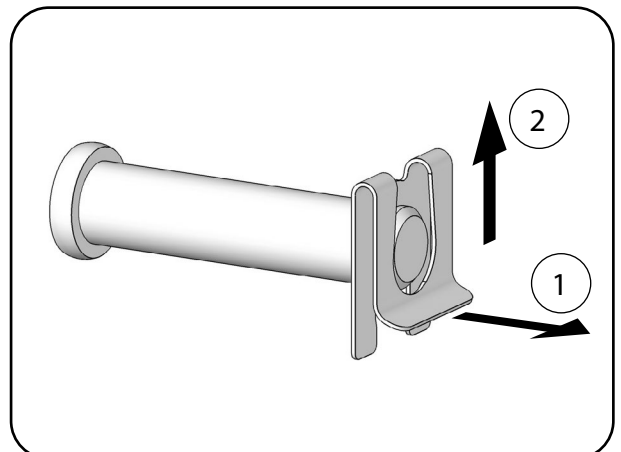

Fig. 6.1.04 - Dismantling the locking plate
Pull the curved end of the plate back a little (1) and push the locking plate out of the groove of the pin (2) (Fig. 6.1.04).